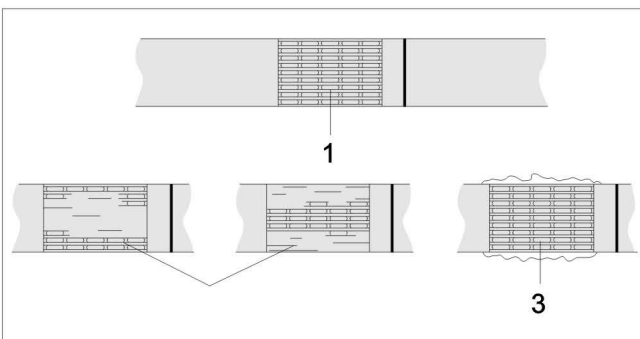

Fig.12 Cheching of seal
-Check appearance of seal (see fig.12) regularly.